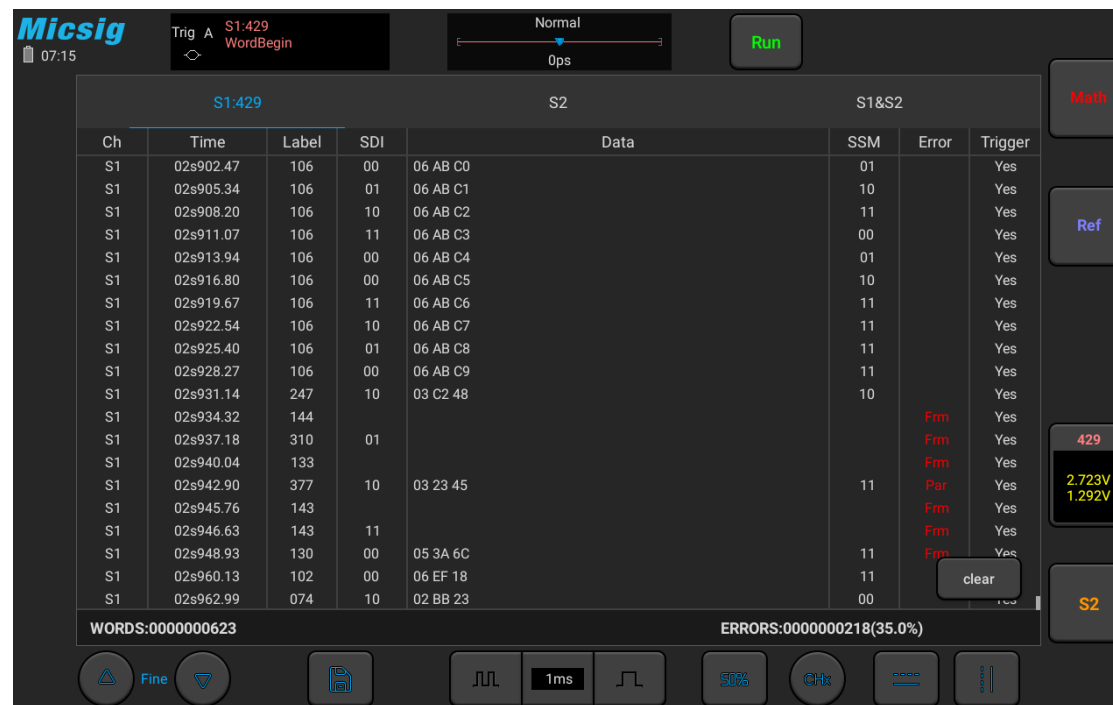

Figure 11-29 ARINC429 Text Interface
**ARINC429 text interface description, as shown in Figure 11-29:**
- (1) “Ch”: bus channel.
- (2) “Time”: intervals between the last read/write operations to current read/write operations
- (3) “LABEL”: label, information identifier, displayed in octal.
- (4) “SDI”: source/target identifier, displayed in binary (displays XX if not identified separately).
- (5) “Data”: content of the transmitted information, displayed in the selected numeration system.
- (6) “SSM”: symbol/status matrix, displayed in binary (displays XX if not identified separately).
- (7) “Error”: displays the frame error type (parity error Par, frame error Frm).
- (8) “Trigger”: “Yes” means reach trigger condition.